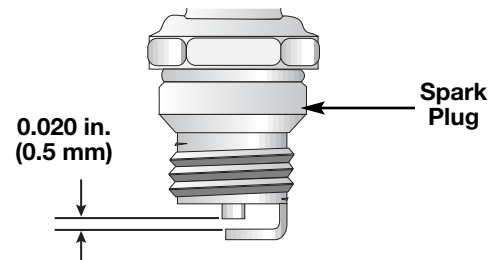

Fig. 23
3. Replace a cracked, fouled or dirty spark plug. Set the air gap at **0.020 in. (0.5 mm)** using a feeler gauge (Fig. 23).